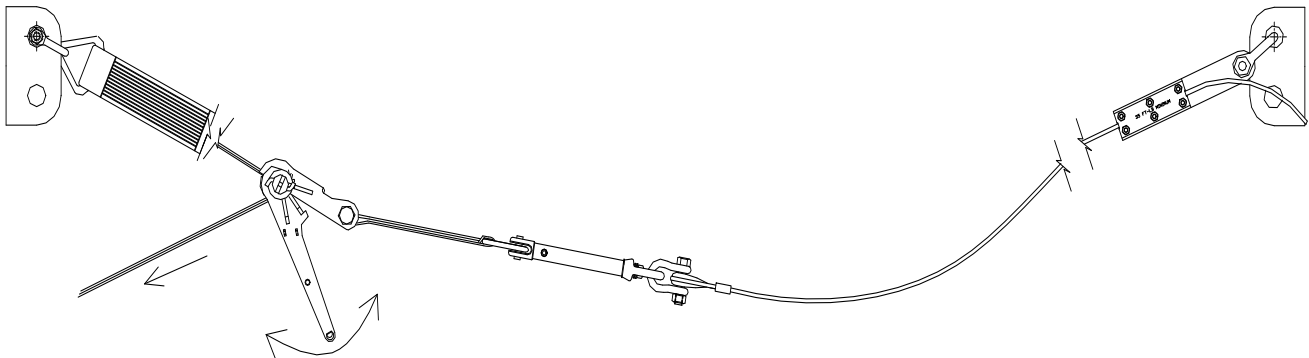

Figure 9 - Tensioning the Horizontal Lifeline
28. Begin lifting the horizontal lifeline cable assembly to its intended position (see Figure 9). If Bypass Stanchions are being used, the cable must be placed through the center of the bypass fittings before the cable is properly tensioned. Pass the free end of the ratchet strap into the slot of the ratchet. Pull the free end of the ratchet strap to help remove slack from the lifeline cable.